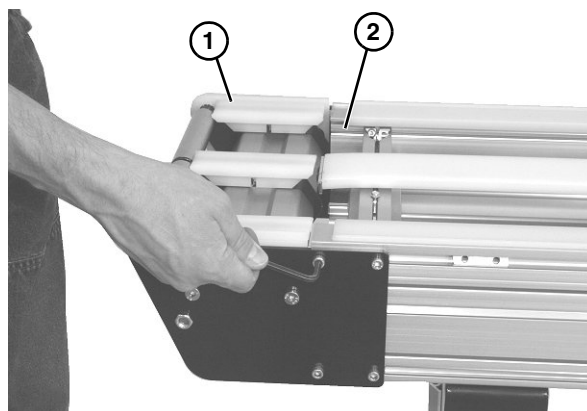

Figure 53
*When reinstalling the idler spindle tail assembly, the idler terminal assembly (**Figure 53, item 1**) should mate flush with the conveyor frame (**Figure 53, item 2**).*